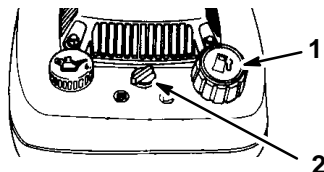

Figure 7
2. Clean around the fuel tank cap and remove the cap from the tank (Fig. 7).
2. Open the fuel valve (Fig. 7).
3. Pull the wire off of the spark plug and close the fuel valve (Fig. 7) if the mower will be unattended or not used.